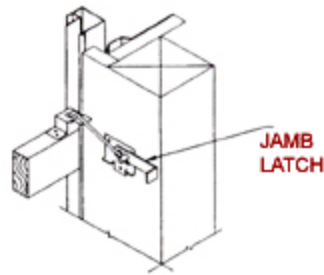

FIGURE 22
- 4.)** Keep slot for hook in line with hook on latch. **(See Fig. 22)**